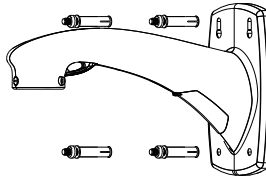
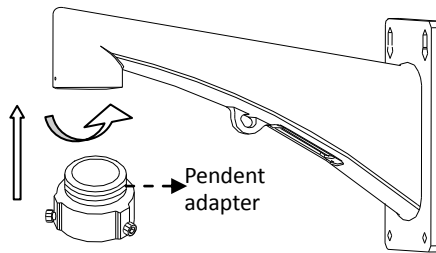

Figure 2-2 Secure the Mount
Figure 2-3 Pendent Adapter
- The mount in Figure 2-2 is the recommended mount for this series of speed dome, and a pendant adapter is required if any other mount is selected. See Figure 2-3.